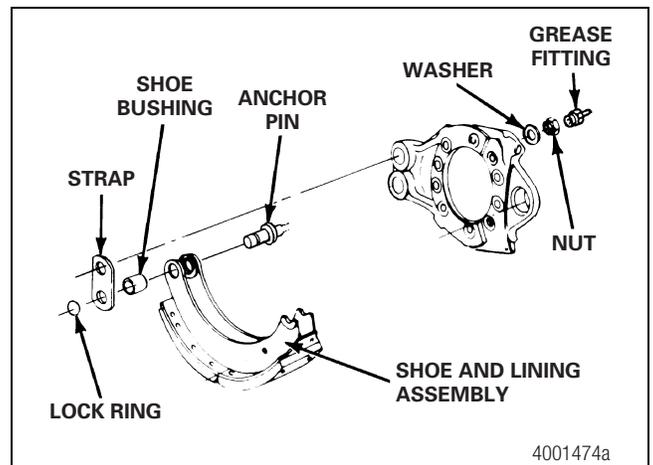

Figure 5.4
- B. From the inboard side of the spider, remove the nut and washer that hold the anchor pin in the spider. Figure 5.4.
- C. From the shoe side of the spider, remove the lock ring from the end of each anchor pin. Figure 5.4.
- D. Remove the strap from the anchor pins. Figure 5.4.